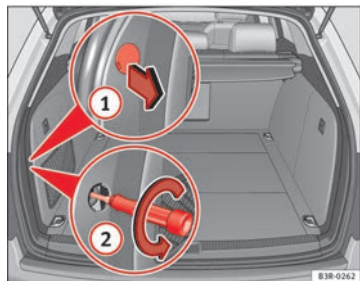
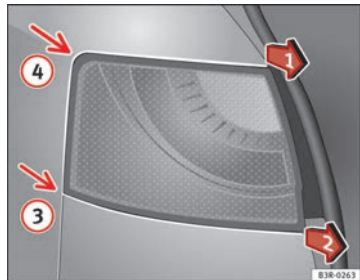

Fig. 224 Luggage compartment: Location of the bolt securing the tail light unit
Fig. 225 Remove rear light unit from side panel
- Prise off the cover with a screwdriver in the slot ⇒ Fig. 224 ① and remove the cover (with all the retaining clips) from the opening.
- Carefully loosen the screw located behind the cover with a screwdriver, turning it anticlockwise (arrows) ②.
- Gradually ease the tail light out of the housing (⇒ Fig. 225 positions ③ and ④) by pulling alternately in positions ① and ②.